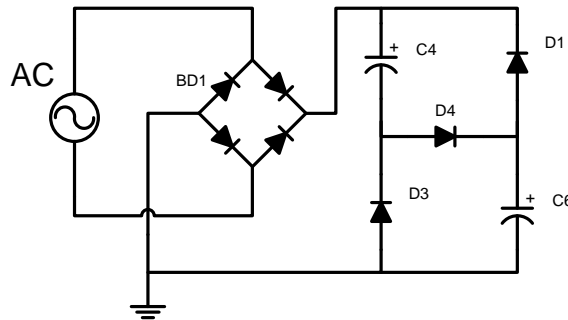

Figure 8 - Bridge and Valley Fill Circuit
- 2) Passive Valley Fill (PVF) Circuit: C4, C6, D1, D3 and D4 (see figure 8 below).